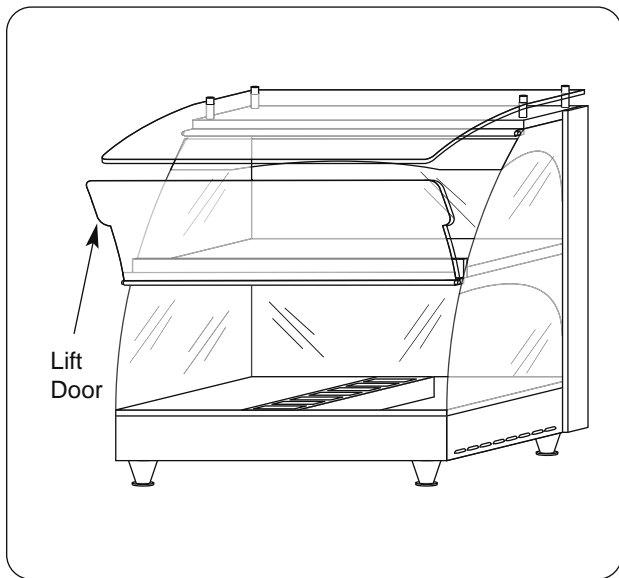

Figure 10. Door Operation
- Fully raise door to load food pans into unit. Close door when complete. (See Figure 10.)